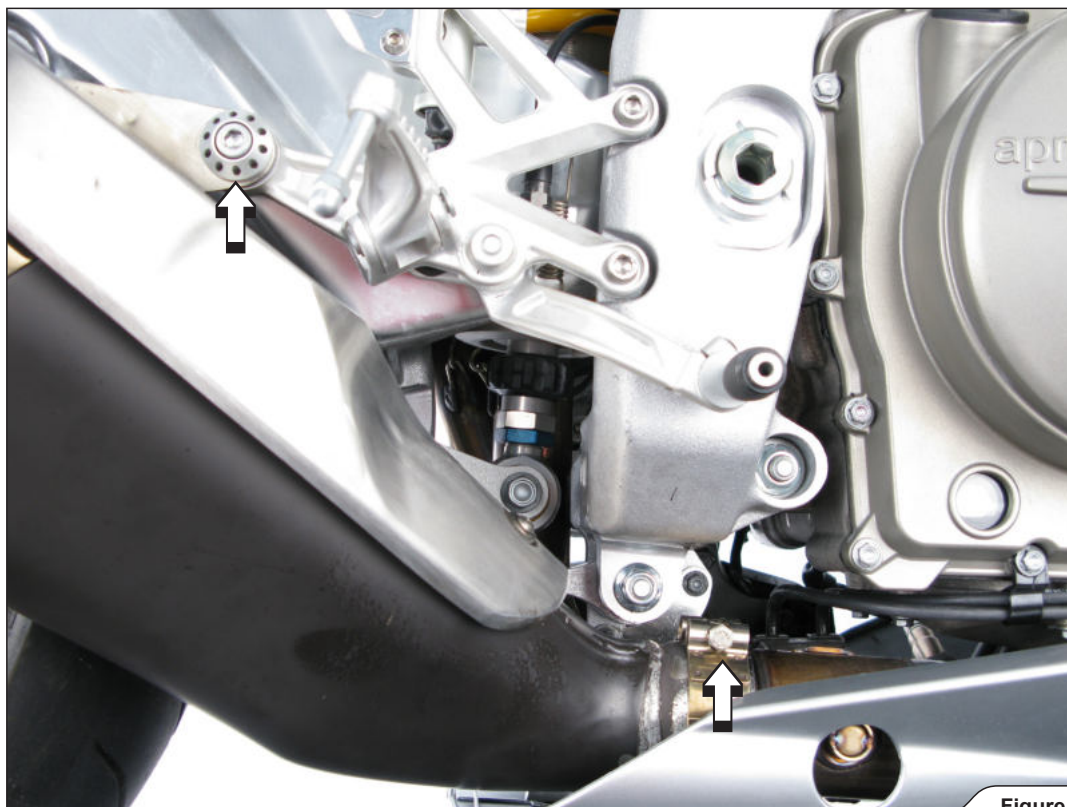

Figure 1
2. Unscrew the marked bolts from the muffler hanging, the metal clamp at the muffler link pipe-collector connection and lower muffler bracket (Figure 1, 2). Remove the muffler.